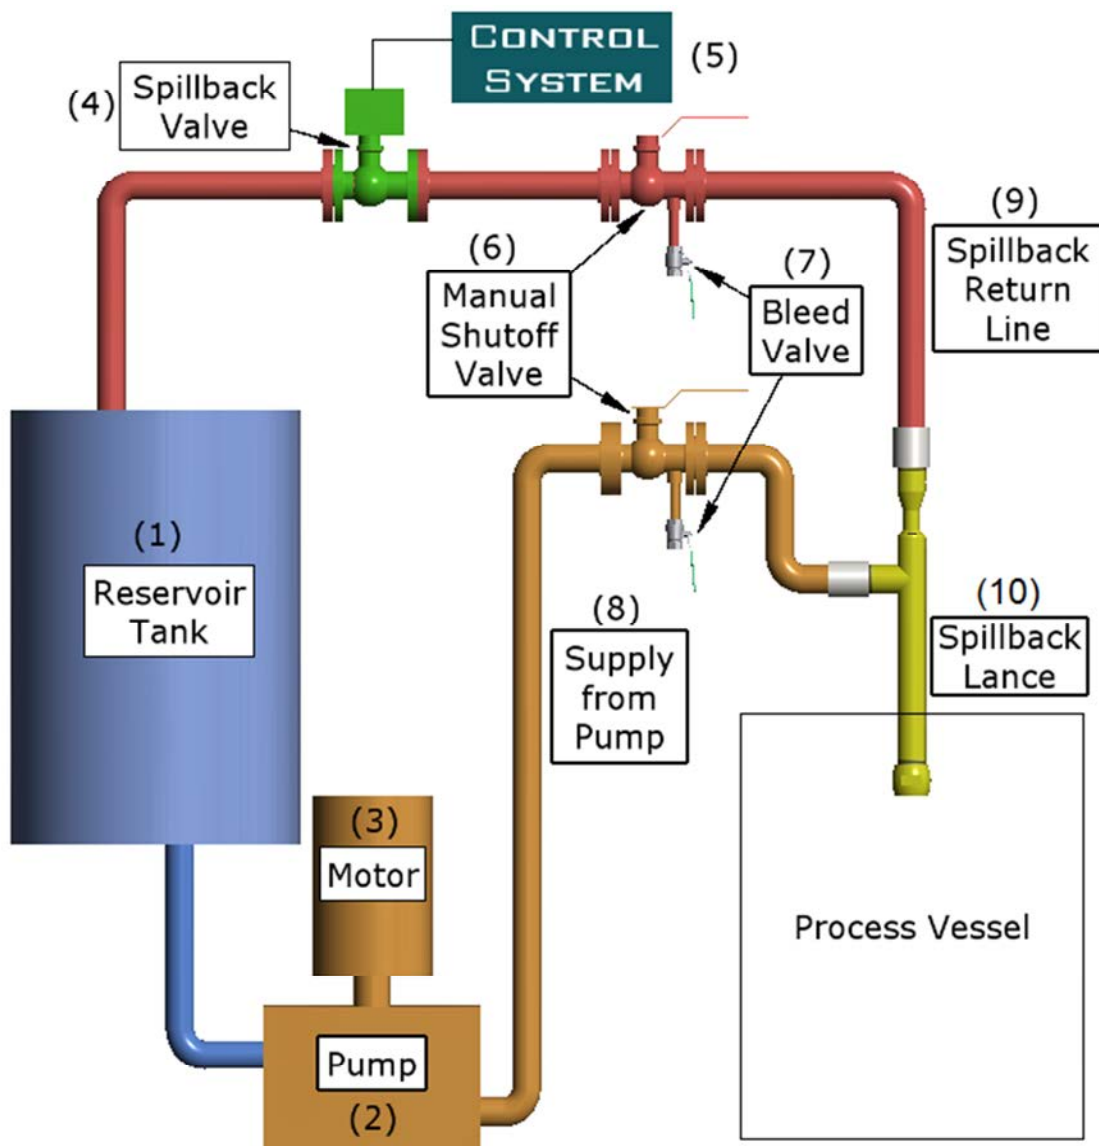

Figure 7: Spillback System Diagram
- It is recommended to install manual valves in the hard piping before the hoses to isolate the lance from the liquid supply and bleed valves to drain the line. (See Figure 7)